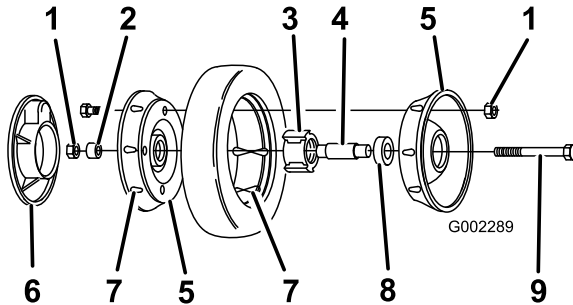

Figure 30
3. Remove the bolt, the wheel spacer, and the locknut mounting the wheel to the pivot arm (Figure 30).
4. Separate the wheel halves from the tire by removing 4 bolts and 4 locknuts (Figure 30).
Note: If you remove the bearings from the bearing/hub assembly, remove them by pressing on the bearing spacer (Figure 30).
1. Position the tire onto one wheel half, aligning the lugs on each (Figure 30).
2. Place the bearing/hub assembly into the center hole of the wheel half. Ensure that the legs of the hub are positioned over the flange of the hole (Figure 30).
3. Place the other wheel half onto the bearing/hub assembly, aligning the wheel and the tire lugs and the mounting holes (Figure 30).
4. Using 2 fully threaded screws or bolts (1/4-20 x 1.50 inch) and non-locking nuts, loosely secure the wheel halves together. Mount the screws or bolts in the opposing holes (Figure 30).
5. Check the alignment of all parts and tighten the bolts, alternating from side to side for a uniform fit, until the wheel halves are drawn together (Figure 30).
tighten. Remove the 2 long screws or bolts and replace them with 2 bolts and 2 locknuts (Figure 30).
7. Install the wheel to the pivot arm with the bolts, a spacer, and a locknut. Ensure that the spacer is positioned between the wheel hub and the pivot arm (Figure 30).